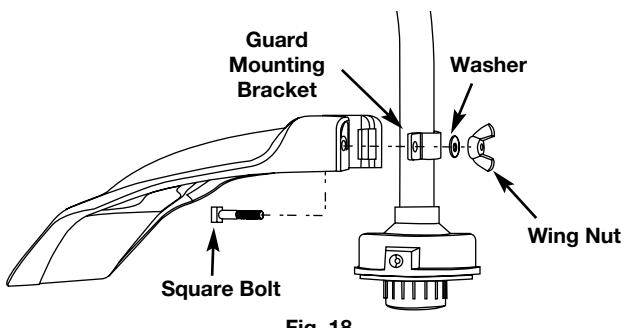

Fig. 18
2. From inside the cutting attachment shield, push the square bolt through the hole until the threaded end protrudes through the guard mounting bracket (Fig. 18).